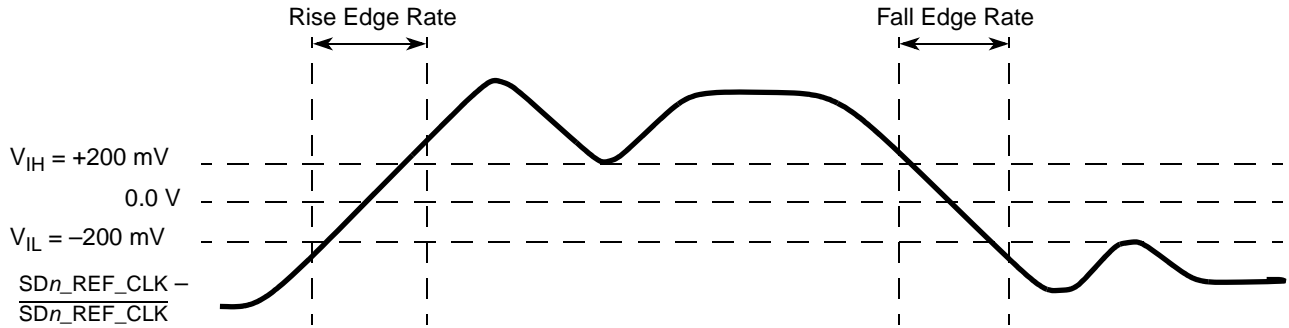

Figure 48. Differential Measurement Points for Rise and Fall Time
3. Measured from -200 mV to +200 mV on the differential waveform (derived from $\text{SD}_n\text{_REF_CLK}$ minus $\overline{\text{SD}_n\text{_REF_CLK}}$). The signal must be monotonic through the measurement region for rise and fall time. The 400 mV measurement window is centered on the differential zero crossing. See Figure 48.